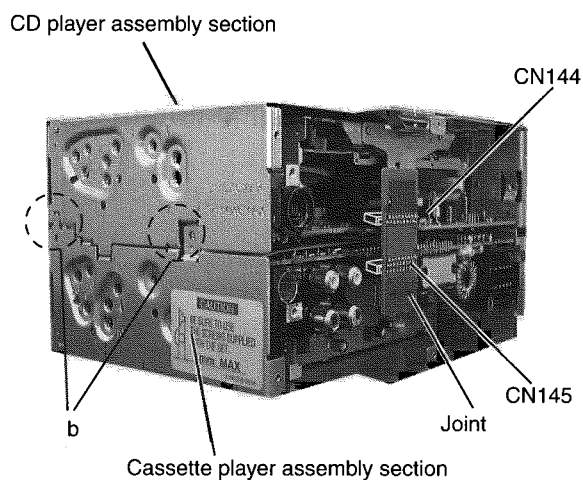

Fig 10
4. Unfasten joint from the rear side of the main body. (See Fig 10)
Please confirm the position of hook **b** in four places when you assemble this. (See Fig10 .11)